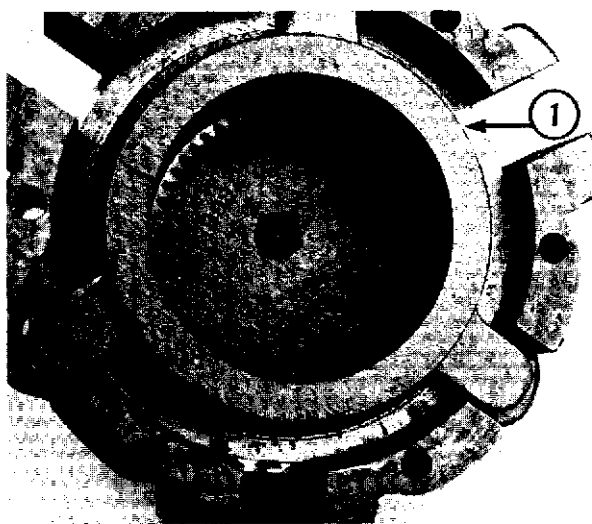

Fig. 9-16
- (5) Install the pressure plate (1, Fig. 9-16).